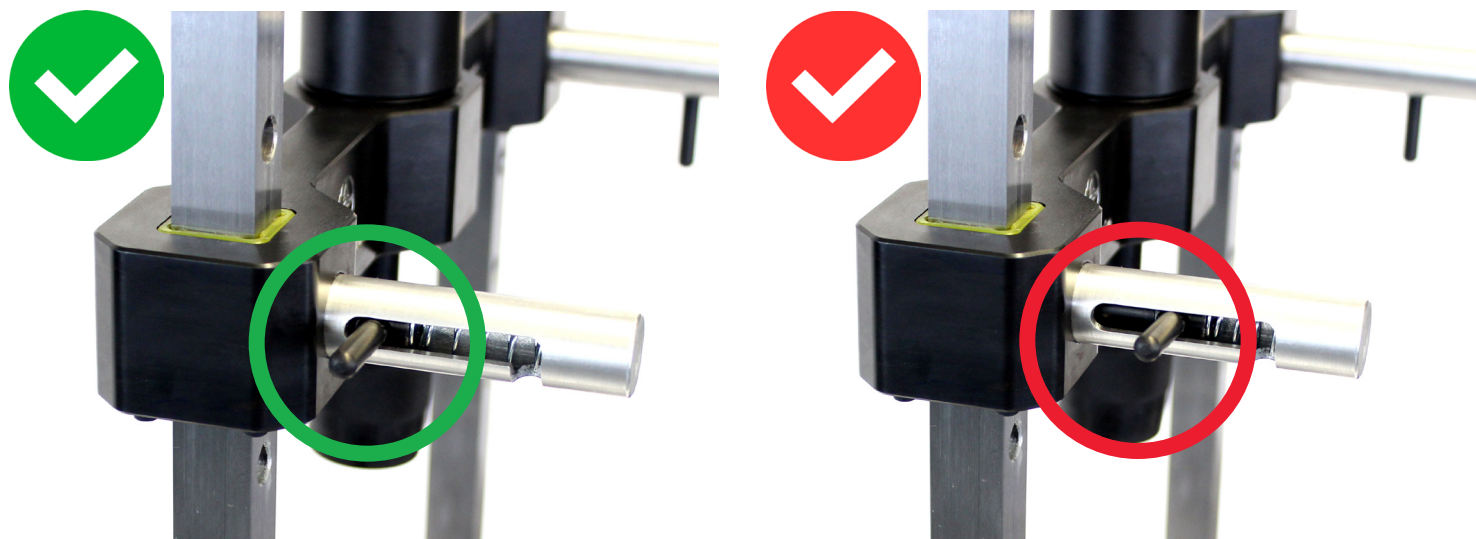

Figure 7: Quick-Change Latch: a) Correct: Fully Engaged, b) Incorrect: Partially Engaged
5. Release the two latches on the stage beam by pulling the handles out, rotating to the bottom position, and moving the stage beam up or down to have the top of the unit under test 1.5" or less away from the ball seat adapter. Check that the latches are fully engaged without gaps between the handles and their housing slot (see Figure 7).
3. Release the two latches on the stage beam by pulling the handles out and rotating to the bottom (see Figure 7) position. Then, move the stage beam up or down to have the top of the unit under test close to the swiveling coupling nut underneath the stage beam. Check the latches to ensure they are fully engaged without gaps between the handles and their housing slot.